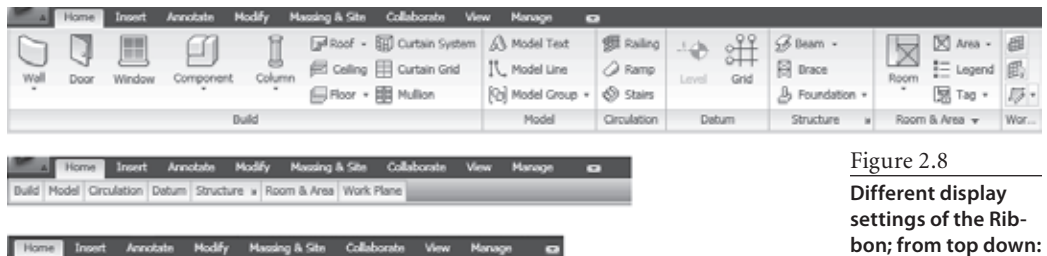

Figure 2.8
**Ribbon** The newly introduced Ribbon (Figure 2.8) stores all Revit commands and tools necessary to create and edit your project information. The Ribbon displays automatically when you open a file or create a new project in Revit.